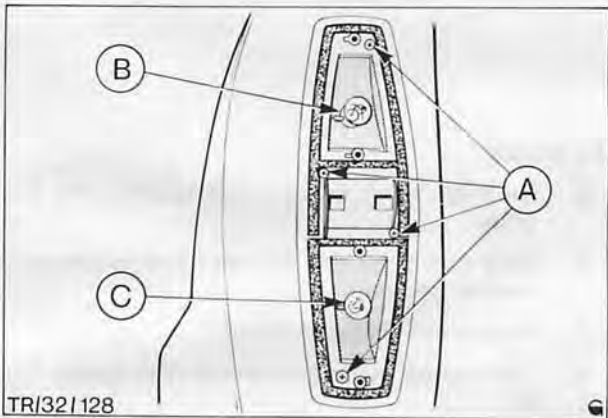

Fig. 28. A – Lamp securing screws
4. Turn bulbs anti-clockwise and remove from lamp, Fig. 28.